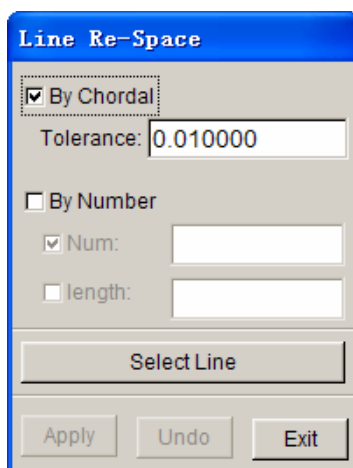

Figure 5.1.16 Re-space Line dialog box
This function allows the user to redistribute the points on the selected line. The dialog box is illustrated in Figure 5.1.16.
- Select the line using mouse cursor. The Line Re-space dialog box will pop-up as illustrated in Figure 5.1.16. There are two options available for user to decide the density of point on line.